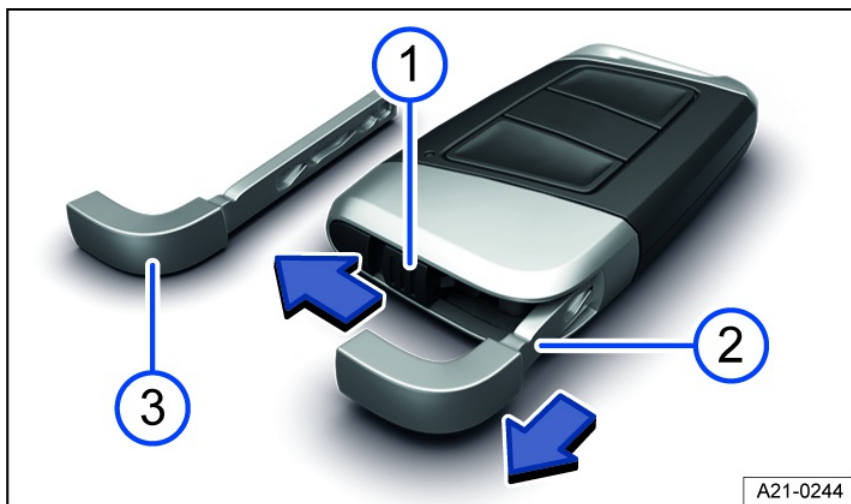

Fig. 52 Vehicle key: Unlocking the emergency key (general example).
- ① Push the locking mechanism in the direction of the arrow.
- ② Remove the emergency key in the direction of the arrow.
- ③ Emergency key.
There may be an emergency key fig. 52 ③ located in the vehicle key that can be used to manually unlock and lock the vehicle.